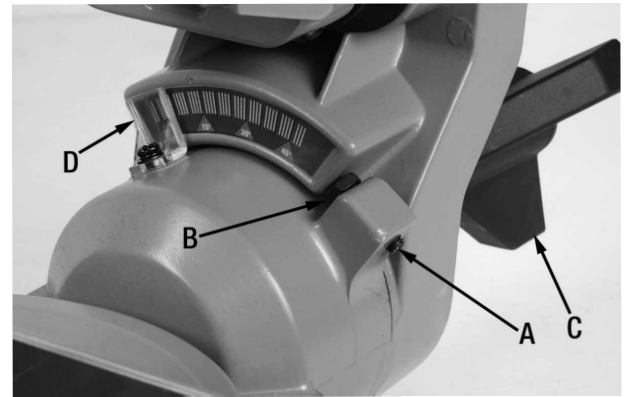

FIGURE 10
6. Loosen the bevel lock knob (C) Fig.10 at the rear of the machine and set the saw arm at 0° bevel (the blade at 90° to the miter table). Tighten the bevel lock knob.